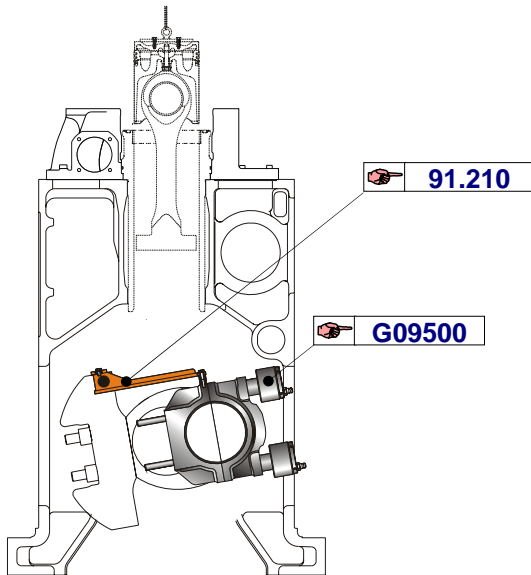

Fig.5 Loosening of the nuts for big end parts studs
1. Turn the crankshaft to 10° approximately as shown in fig. 5.